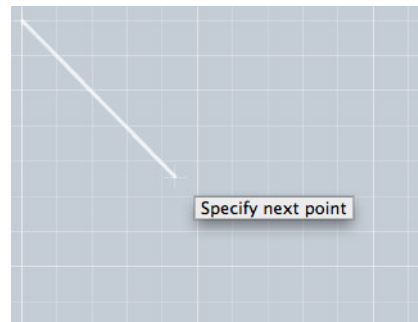

Figure 4-57 Create the second point
3. As shown in Figure 4-57, move your mouse and click again to create your second point. (This will show up as a straight segment—that's OK.)